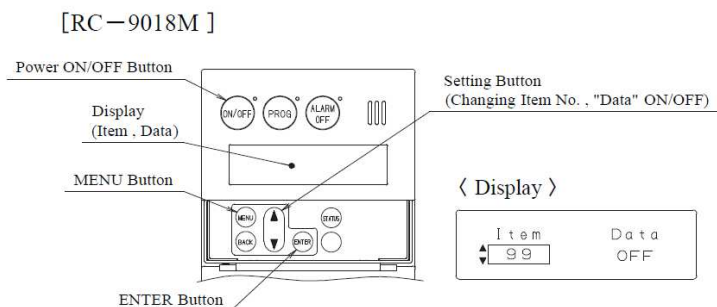

Figure 6
- 4) **FOR REMOTE CONTROLLER RC-9018M (Figure 6) ONLY:** After accessing the Maintenance Writer mode, use the “ENTER” button to select from “Item” or “Data”. Press the “up” and “down” buttons to change the Maintenance Writer “Item” number display and on “Data” to “ON” or “OFF”.